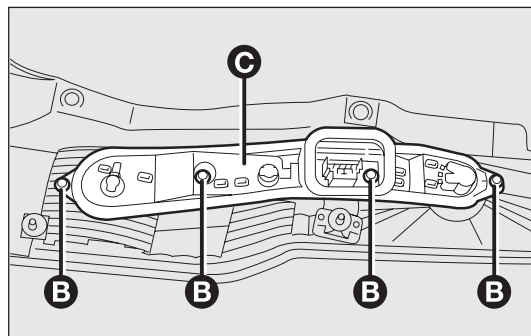

fig. 153
- loosen the four screws B-fig. 153 from their housings and remove the bulb-holder C;